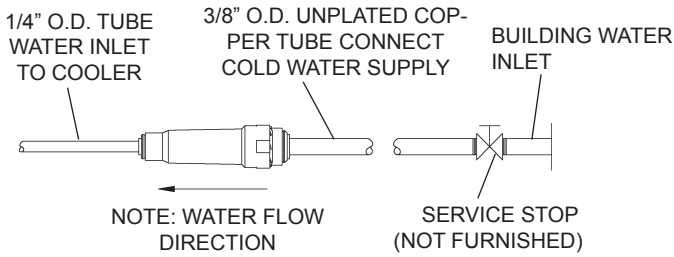

Figure 3 – Water Supply Connections
1. **Make** water supply connections (Fig. 3). Install a shut-off valve and union connection to building water-supply (valve and union not provided). Turn on water supply and flush the line thoroughly.